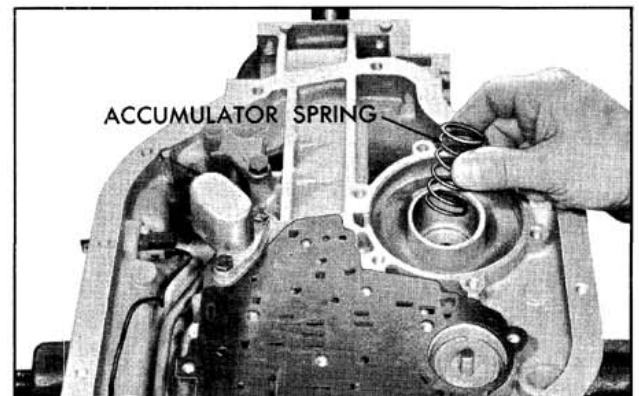

Fig. 6-44 Removing Rear Accumulator Spring
3. Remove rear servo accumulator spring. (Fig. 6-44)